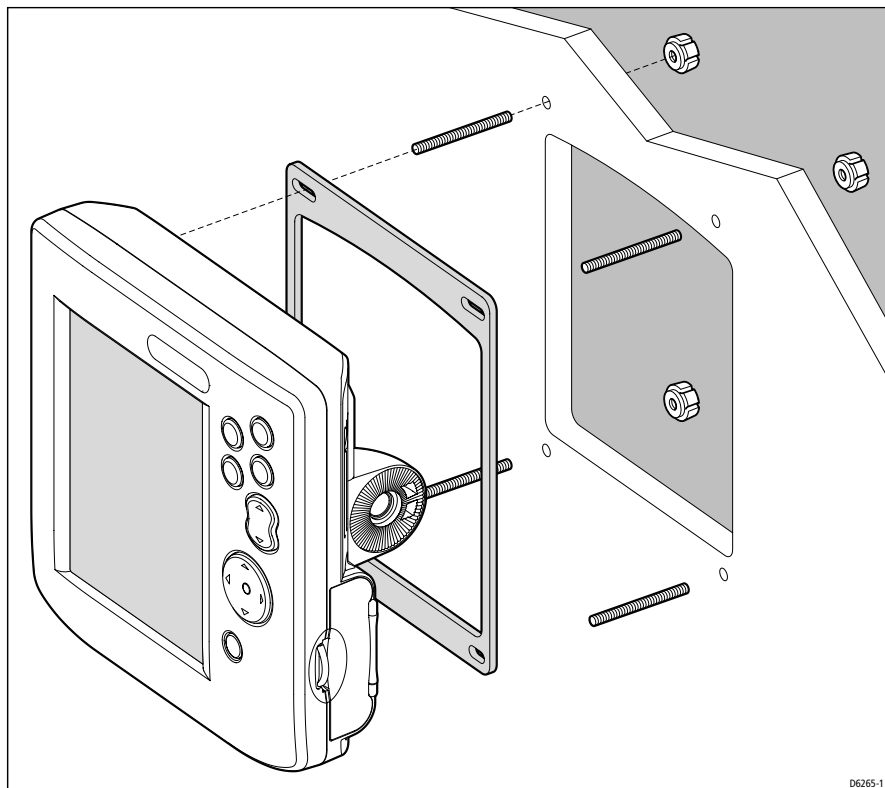

Figure 2-3: RC435 Panel Mounting Arrangement
9. Secure the unit with the thumb nuts, hand tight only (*Figure 2-3*).